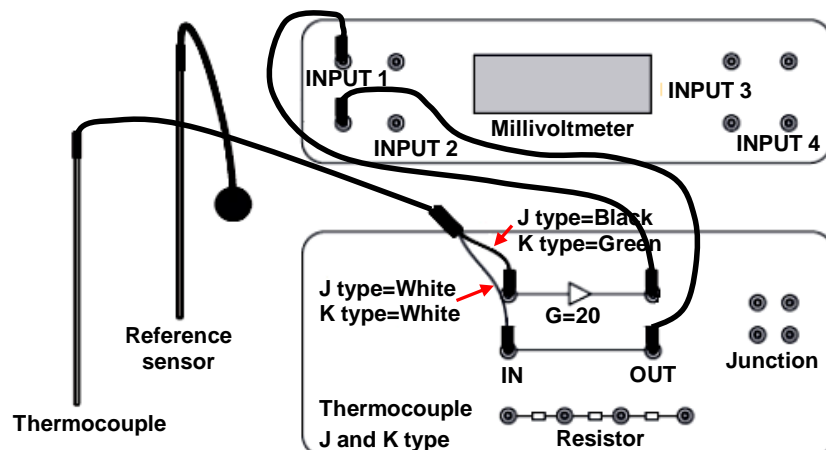

Figure 4
1. Connect the reference sensor to its socket and connect J or K type thermocouple (Item 8 or 9) to the amplifier and millivoltmeter as shown in Figure 4. The amplifier amplifies the voltage from the thermocouple by 20, which makes it suitable for the millivoltmeter. Hence, the actual voltage from the thermocouple is 1/20 of the millivoltmeter reading.